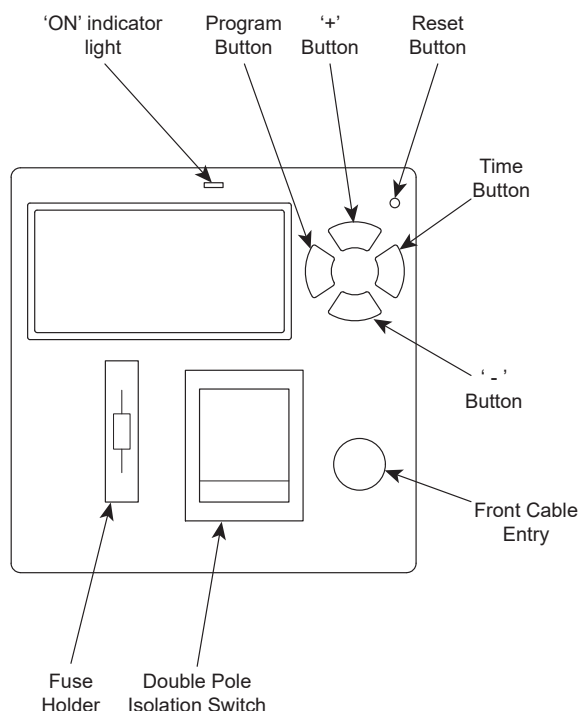
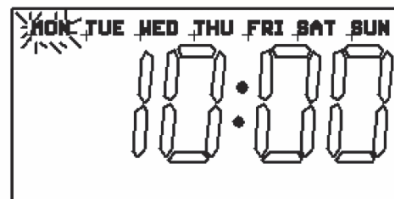
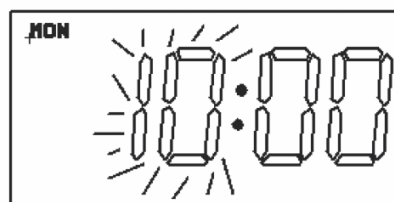
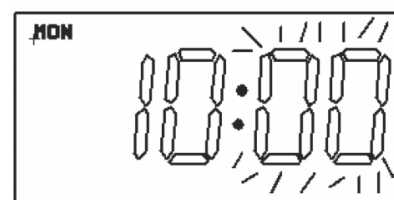

Figure B-1: Greenbrook T205-C Fused Timer Spur Switch
Figure B-3: Setting day of the week
Figure B-4: Setting time of day (hours)
Figure B-5: Setting time of day (minutes)
- To fully reset this unit press the recessed 'Reset' button with an insulated probe (see Figure B-1).
- Press the 'Time' button for 2 seconds. (See Figure B-1). The day of the week will start flashing (see Figure B-3).
- Press the 'Time' button (see Figure B-1) and the hour digits will flash (see Figure B-4).
- Press the 'Time' button (see Figure B-1) and the minutes will flash (see Figure B-5).
1. Refer to Figure B-1. Press the 'Programme' button and hold for 2 seconds. The display will represent Figure B-6 (showing 7-day type operation).